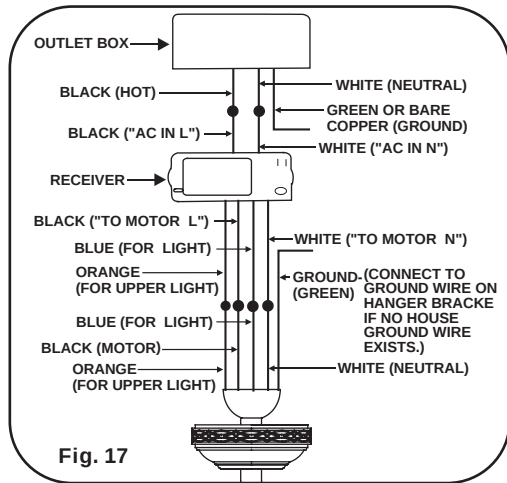

Fig. 17
NOTE: If your ceiling fan features an UP Light: Connect the ORANGE wire from the fan to the ORANGE wire marked "For Up Light" from the Receiver. Otherwise disregard this step and proceed to secure all wire connections with the plastic wire nuts provided. (Fig. 17 & 18)
Step 3. Receiver to House Supply Wires Electrical Connections: Connect the WHITE wire (Neutral) from the outlet box to the WHITE wire marked "AC in N" from the receiver. Connect the BLACK wire (Hot) from the outlet box to the BLACK wire marked "AC in L" from the receiver. Secure all wire connections with the plastic wire nuts provided. (Fig. 17 & 18)
Step 4. If your outlet box has a GROUND wire (Green or Bare Copper) connect this wire to the Hanger Ball and Hanger Bracket Ground wires. If your outlet box does not have a Ground Wire, then connect the Hanger Ball and Hanger Bracket Ground Wires together. Secure wire connection with the plastic wire nut provided. (Fig. 17 & 18)